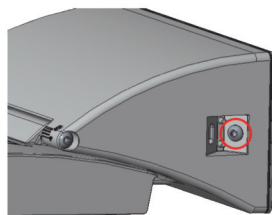

Fig. 5
6. Remove the screws from the sides of the driver box using an M4 hex key (**Figure 5**).